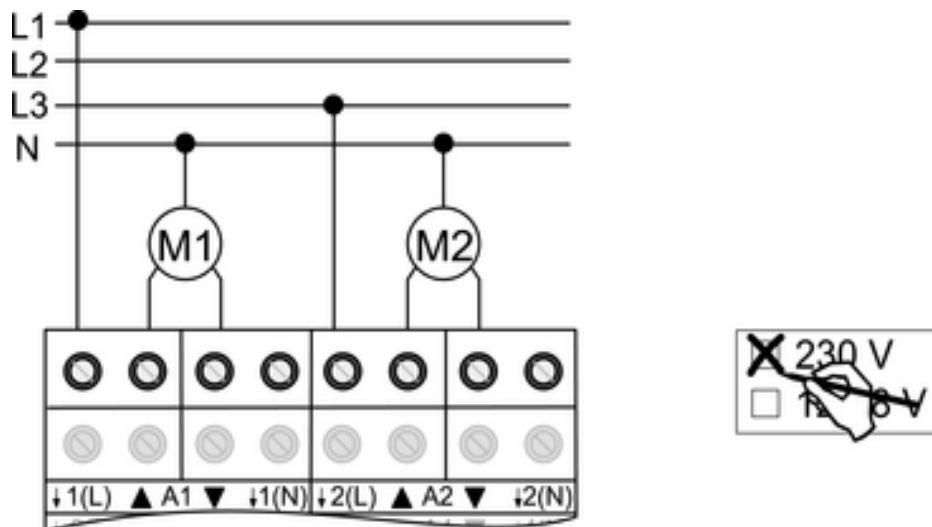

Figure 6
- Connecting the motors (Figure 6).
- Mark **230 V** use on label (Figure 6).
- i** The N conductor connections (14) serve only to detect the operation time and do not provide any N potential.